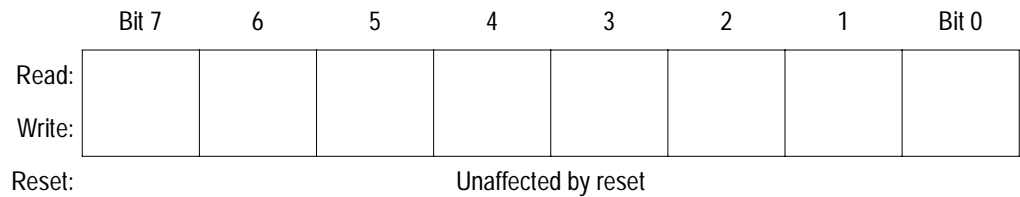

Figure 3-2. Accumulator (A)
The accumulator (A) shown in **Figure 3-2** is a general-purpose 8-bit register. The CPU uses the accumulator to hold operands and results of arithmetic and non-arithmetic operations.